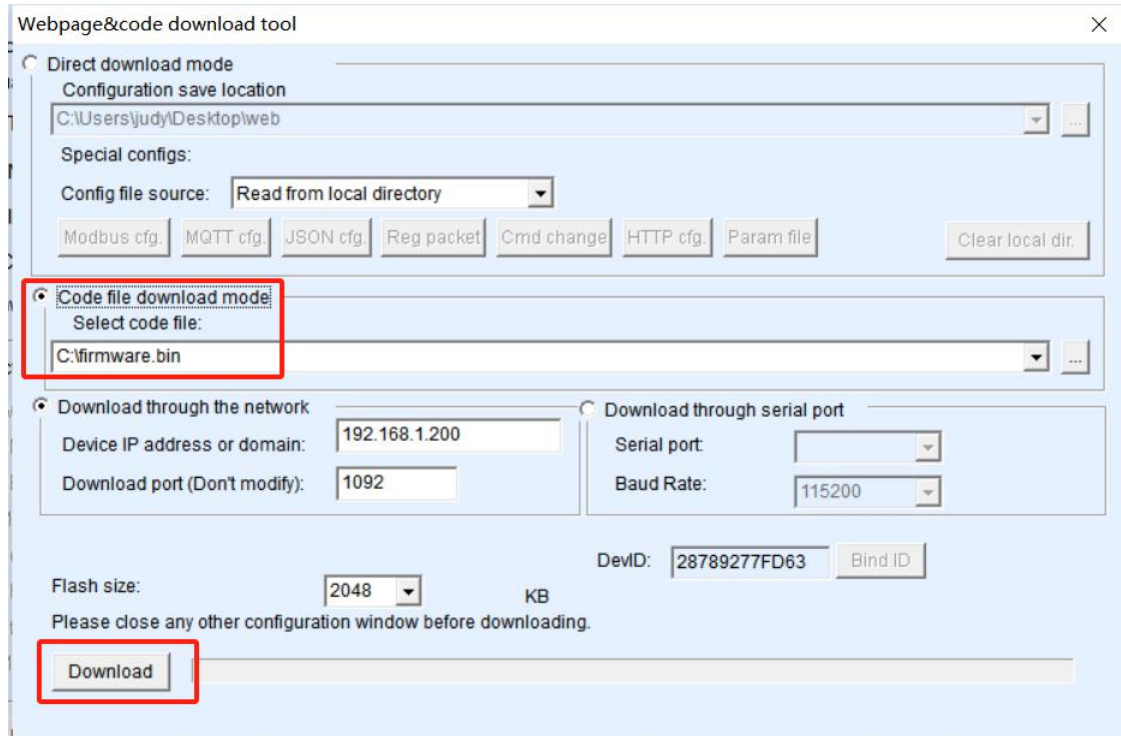

Figure 55 VT-WF110 Firmware Upgrade Method
3. As shown in Figure 55, select the "Program File Download" radio button. In the program file, choose the firmware file. The IP address part for the serial server has been automatically filled in and does not need to be written again, the module type/model has been automatically selected. Then click on Download.